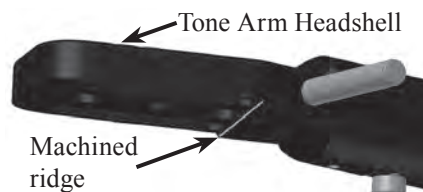
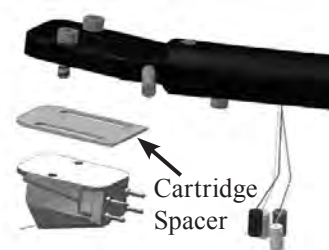

Figure 7
Figure 23
- Position the Cartridge to the underside of the Tone Arm Headshell, with the top rear edge of the Cartridge parallel to and touching the machined ridge of the Headshell. Refer to figures 7 and 8.
MT10 Turntable) to the underside of the Tone Arm Headshell with the top rear edge of the Spacer parallel to and touching the machined ridge of the Headshell. Refer to figure 7 on page 8 and figure 23.